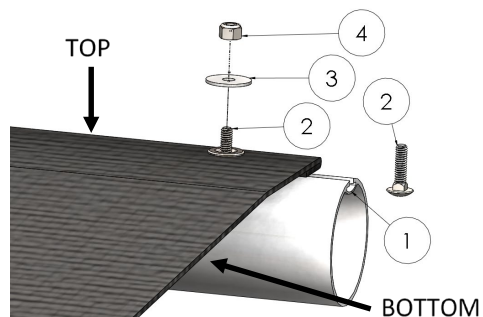

Figure 3.3
Align tarp grommets with carriage bolts (2). Center tarp on axle. Install fender washers (3) and nylon lock nuts (4) as shown in Figure 3.3.